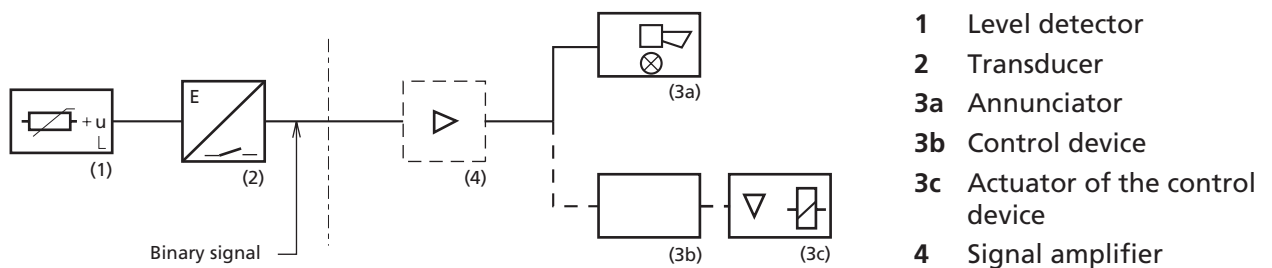

Fig. 1: Schematic diagram of the overflow protection system
The overflow protection system consists of a level detector (1) and a transducer (2) with a binary output (potential-free change-over contact). The switching signal is fed to the annunciator (3a) or the control device (3b) with actuator (3c) direct or via a signal amplifier (4) if necessary. (See Fig. 1)